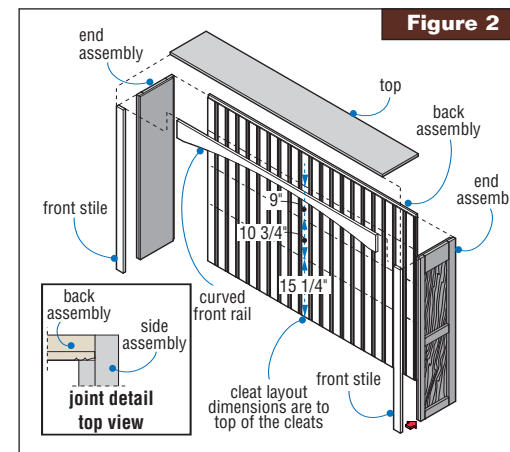

Figure 2
Step 2: Attach end assemblies to back assembly (see Figure 2).
b. Glue each of the end assemblies to the back panel with the back side stile overlapping the end edge of the back panel and its bottom edge flush with the bottom edge of the back panel. Secure with 2-inch brads and glue. Use a framing square to ensure 90-degree corners. (See Figure 2 for joint detail.) (**Note:** The upper edge of the back panel should be 3/8 inch higher than each of the end assemblies.)
Step 3: Attach the top and face frame parts (see Figure 2).
c. With the same technique you used to create the arc contour on the front skirt for the base cabinet, mark and cut the curved front rail for the upper cabinet. (See detail illustration in Figure 2.) Use 1 1/4-inch pocket screws and glue to attach it to the front stiles, securing it to the front edge of the top.